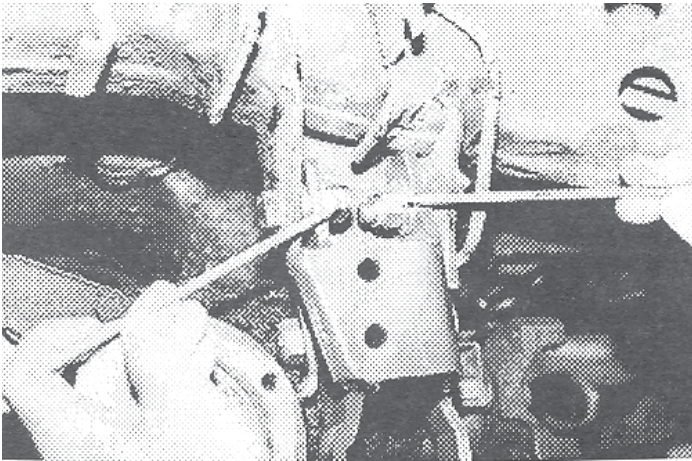

Fig. 30
29. Note position of ears on upper portion of bracket "CL". Measure and locate center of ears, transfer coordinates to external surface of OE receiver. Drill 1/2" hole through OE receiver and bracket "CL", in front and rear legs. Install 7/16" sleeve in gap between bracket "CL" and front leg of OE receiver. Install 1/2" x 1 1/2" bolt assemblies running front bolt through 7/16" sleeve. Torque fasteners to specification. **Fig. 30.**